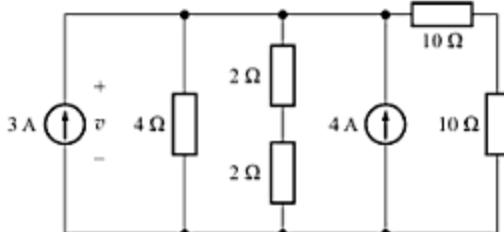

Fig. A-60
- A-12. Find the voltage v in the circuit given in Fig. A-60.